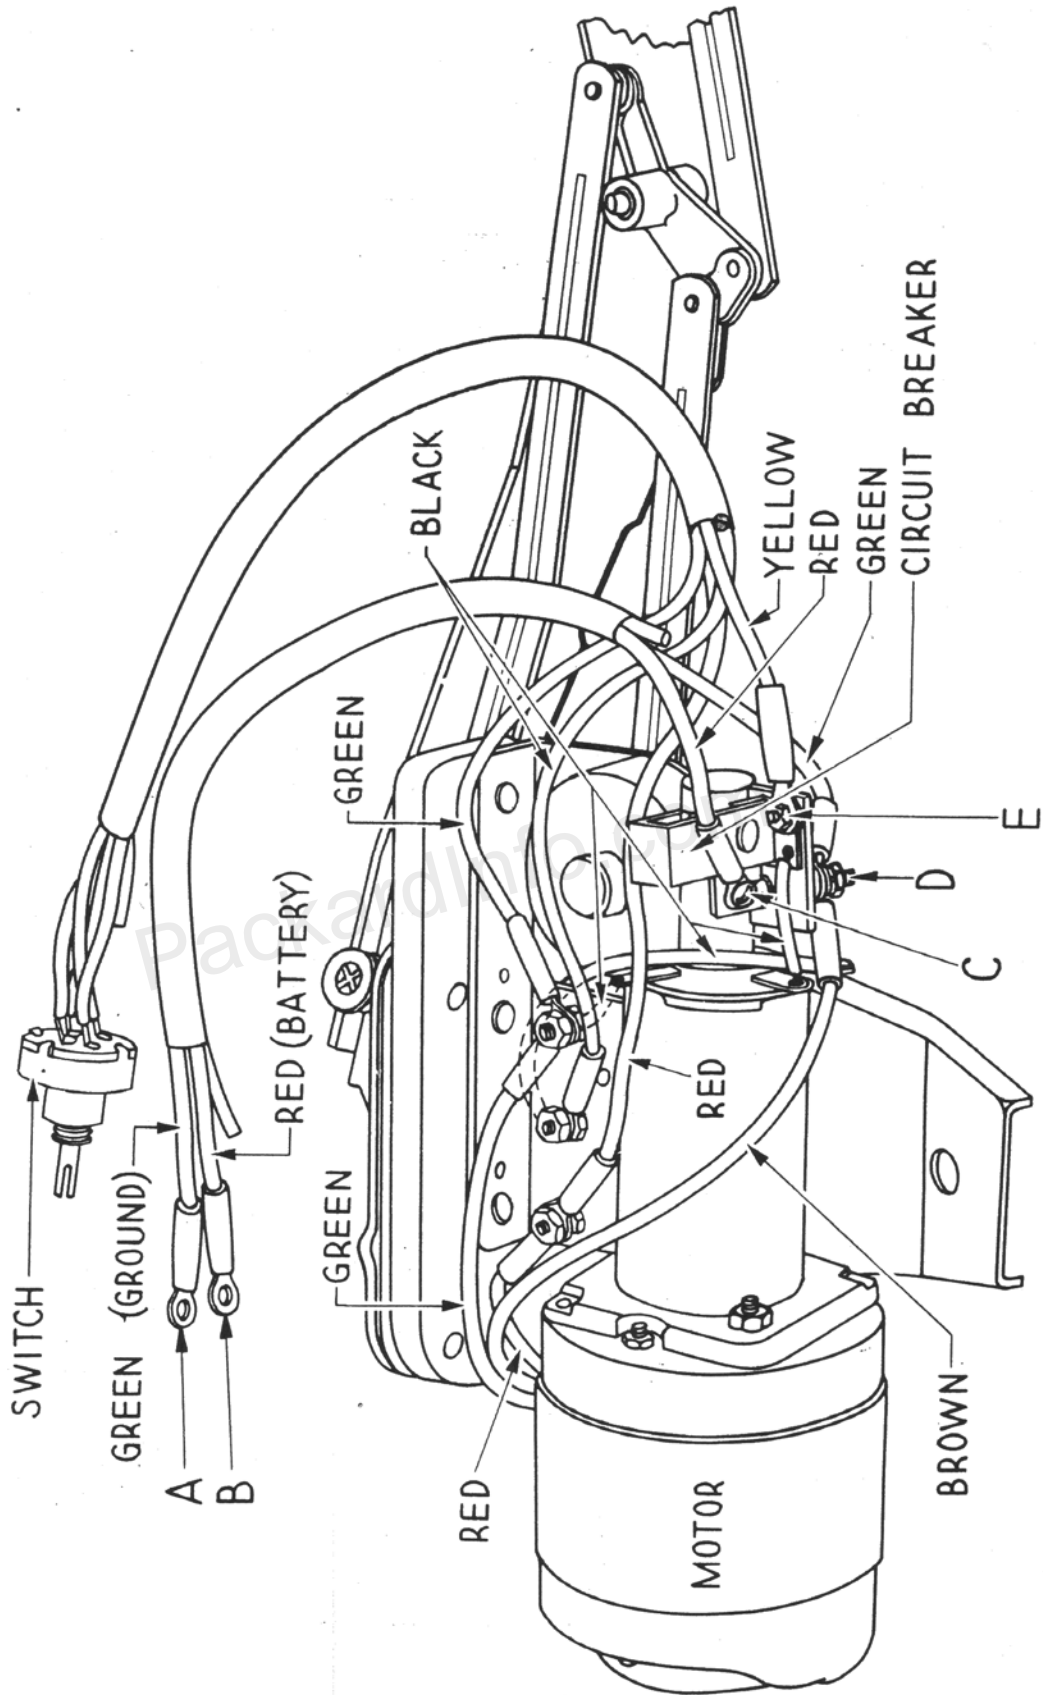

Figure 17 Wiring Diagram for Model 645-E Windshield Wiper
1. Disconnect wires at C, D and E, Fig. 17.
3. Connect electric wiring leading to car ignition system (See Figure 17) and install wiper switch on instrument panel.